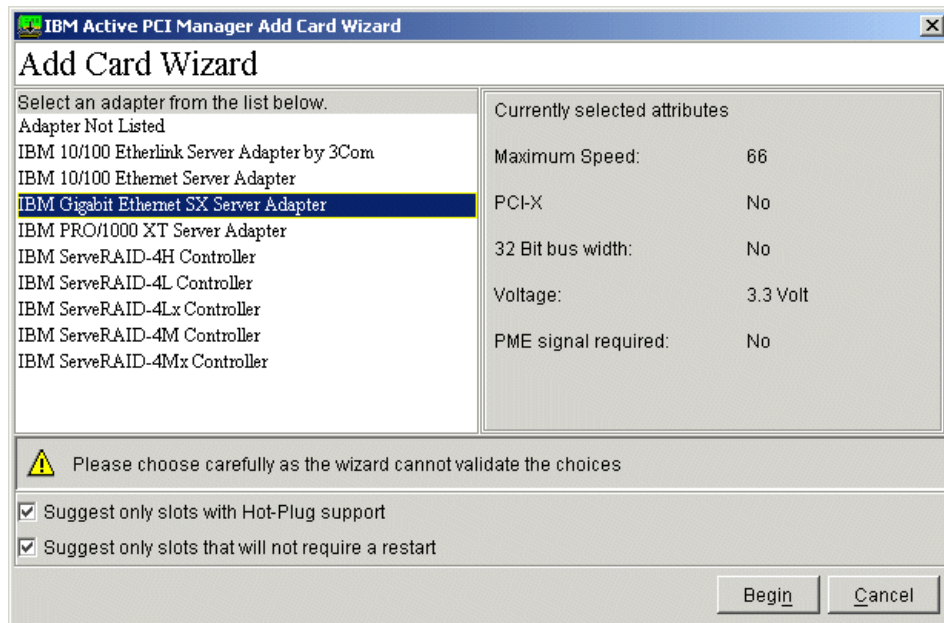

Figure 5-8 Selecting the IBM Gigabit Ethernet SX Adapter
2. To add the IBM Gigabit Ethernet SX Adapter, select it from the list. The characteristics of the adapter are listed on the right side, as shown in Figure 5-8.